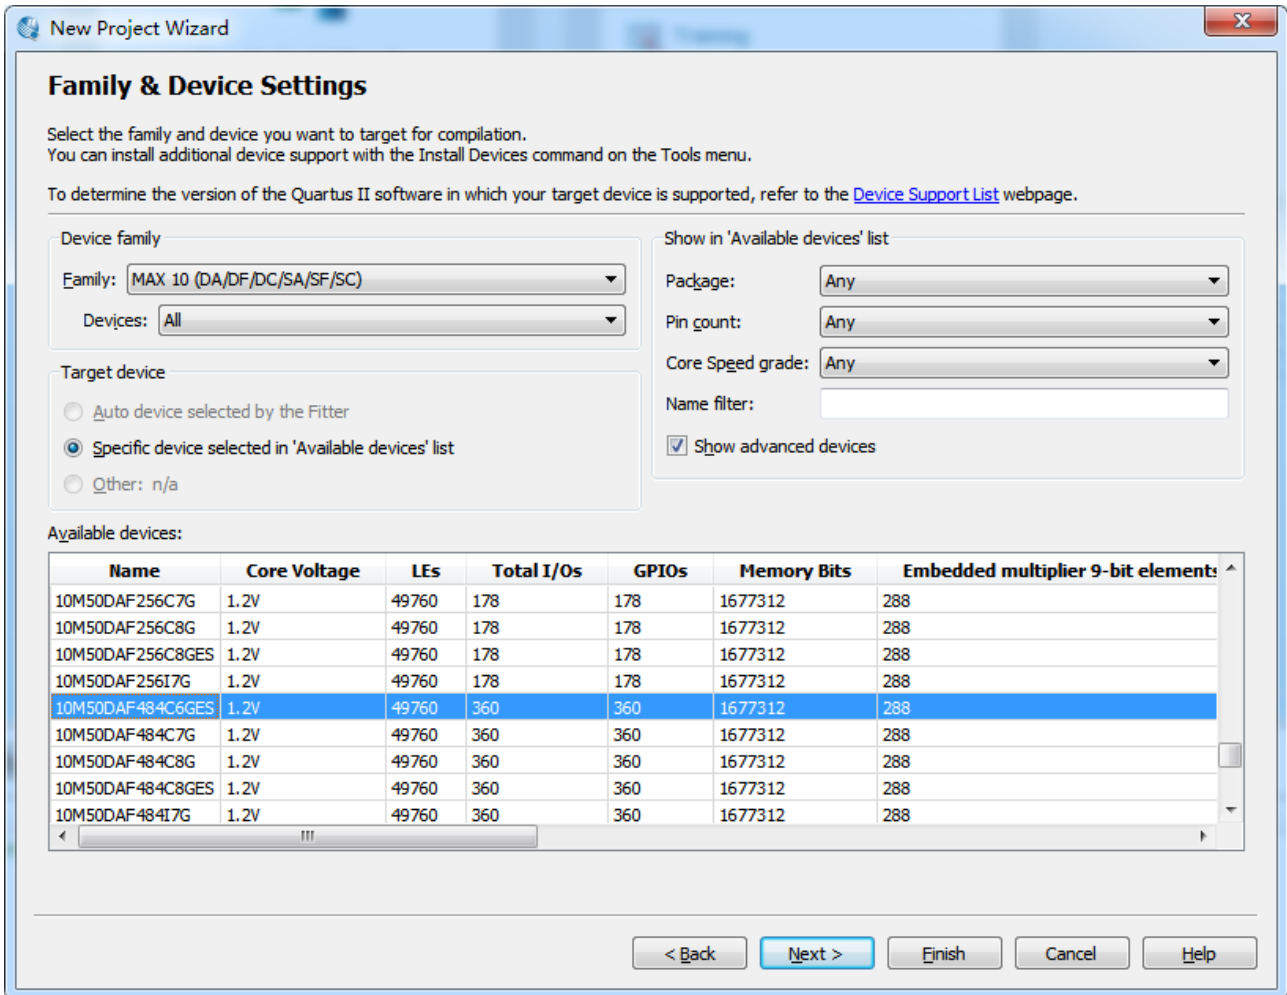
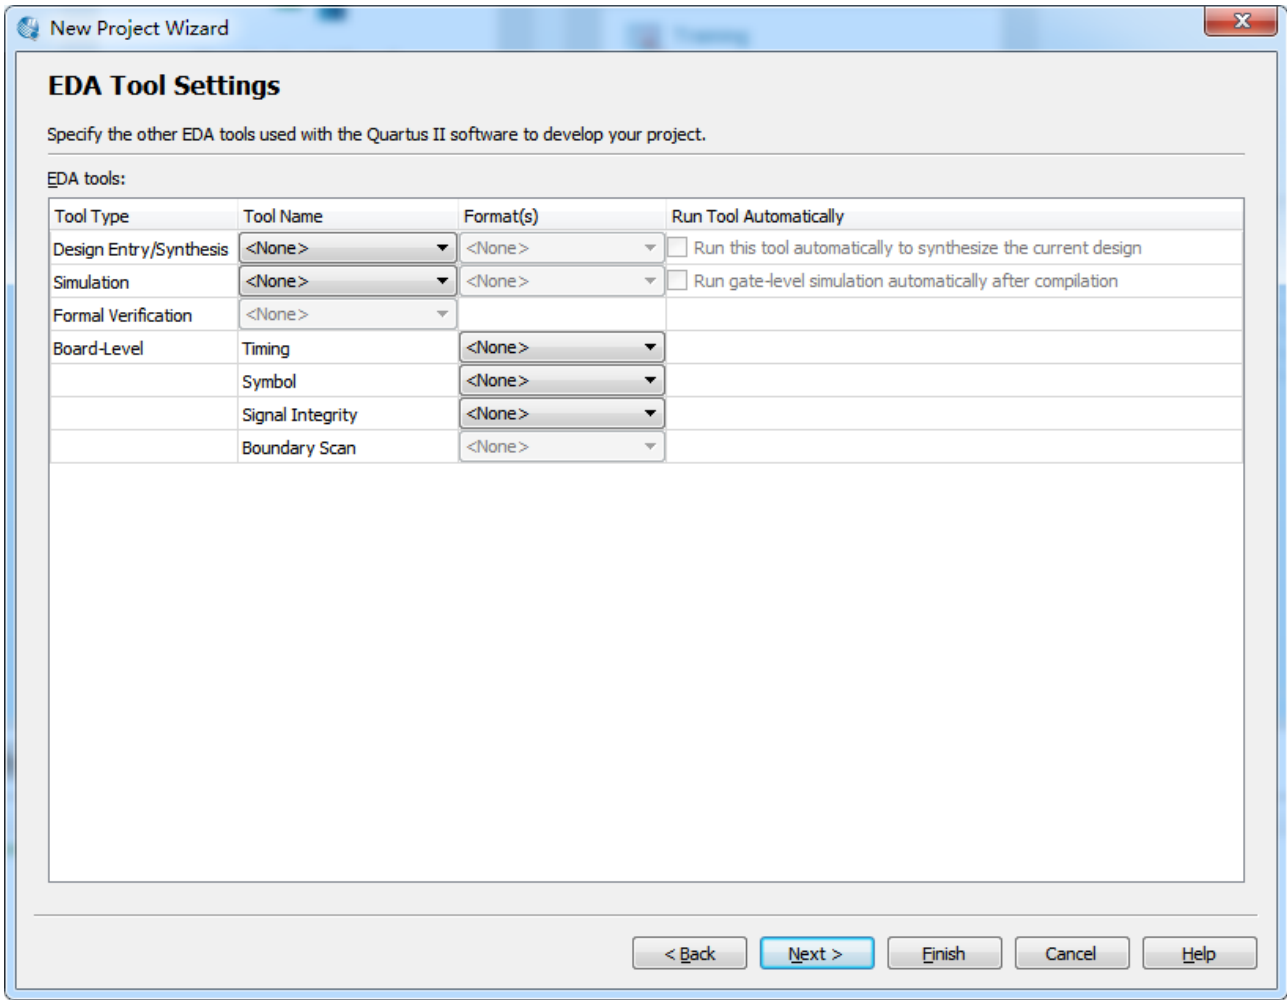

Figure 1-5 Family & Device Settings
Figure 1-6 EDA Tool Settings
3. Click **Next** and choose the device family with device settings according to **Figure 1-5**. Click **Next** to the next window, as shown in **Figure 1-6**.